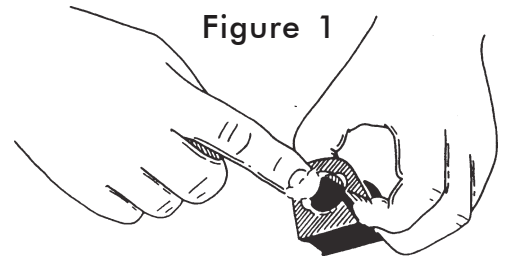

Figure 1
1. Lubricate the solid urethane bushing (Figure 1) and push over the end of the anti-sway bar and slide it into place. Now, push the new saddle bracket over the solid bushing (2 above). This may require tapping with a hammer. Bolt the bushing and bracket into place, leaving the bolts loose. Repeat steps 1 and 2 on the other end of the anti-sway bar.